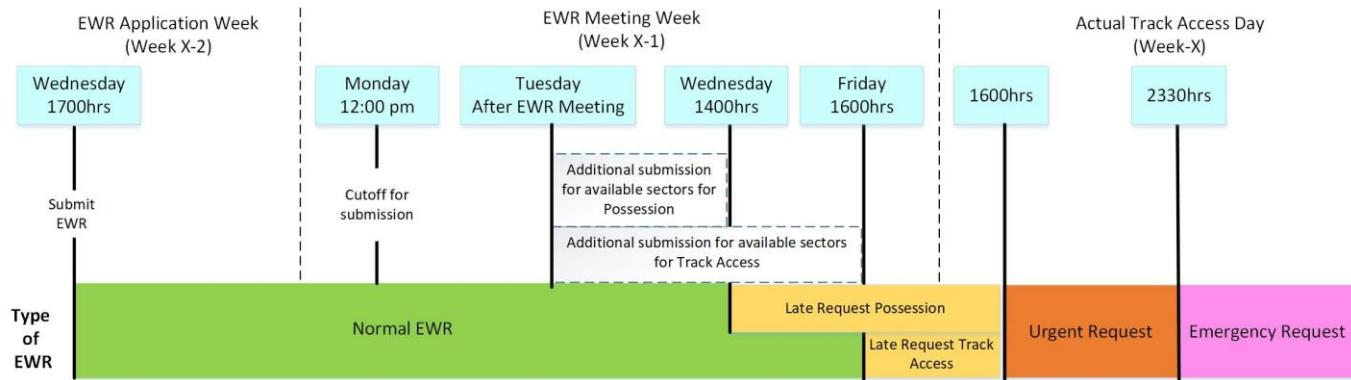

Figure 1
- Figure 1: Live-Track Possession with the Protection Required on Both Bounds Figure 1: Live-Track Possession with the Protection Required on Both Bounds
- a. Request for access to track must be submitted using the Track Access Management System (TAMS) by Monday 1200 hours, after which TAMO will run the TAMS AI module at 1330 hours to generate an optimum access to track plan for the Engineering Work Request (EWR) meeting on Tuesday (see **Figure 1**).
- b. After the Engineering Work Request (EWR) meeting on Tuesday, additional EWR applications can be submitted for available sectors before Wednesday 1400 hours for Possession and before Friday 1600 hours for Track Access (see **Figure 1**).